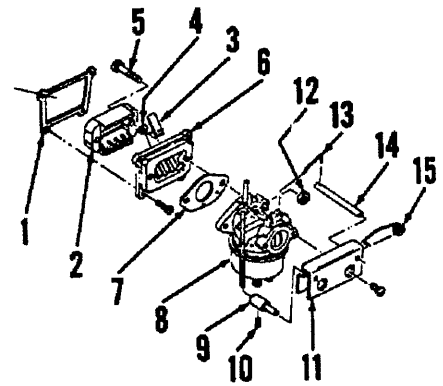

Fig. E2-15—Exploded view of the reed valve used on AV750 models. Carburetor and reed valve must be removed and installed as a unit.
On AV750 models, the reed valve assembly and carburetor must be removed as a unit by removing four screws that secure reed plate (6—Fig. E2-15). Removal of the carburetor and disassembly of the reed valve can be accomplished by removing the two screws (5) and nuts (12). The reed petals can be renewed without renewing reed plate (6); however, make certain that seating surface is not damaged. The rough edge of reed petals must be away from reed plate. New reed petals (3) are marked on the smooth side and the marked surface should be against the reed plate (6). When assembling, coat threads of screw (5) with Loctite and tighten to 50-60 in.-lbs. (5.6-6.7 N·m) torque.